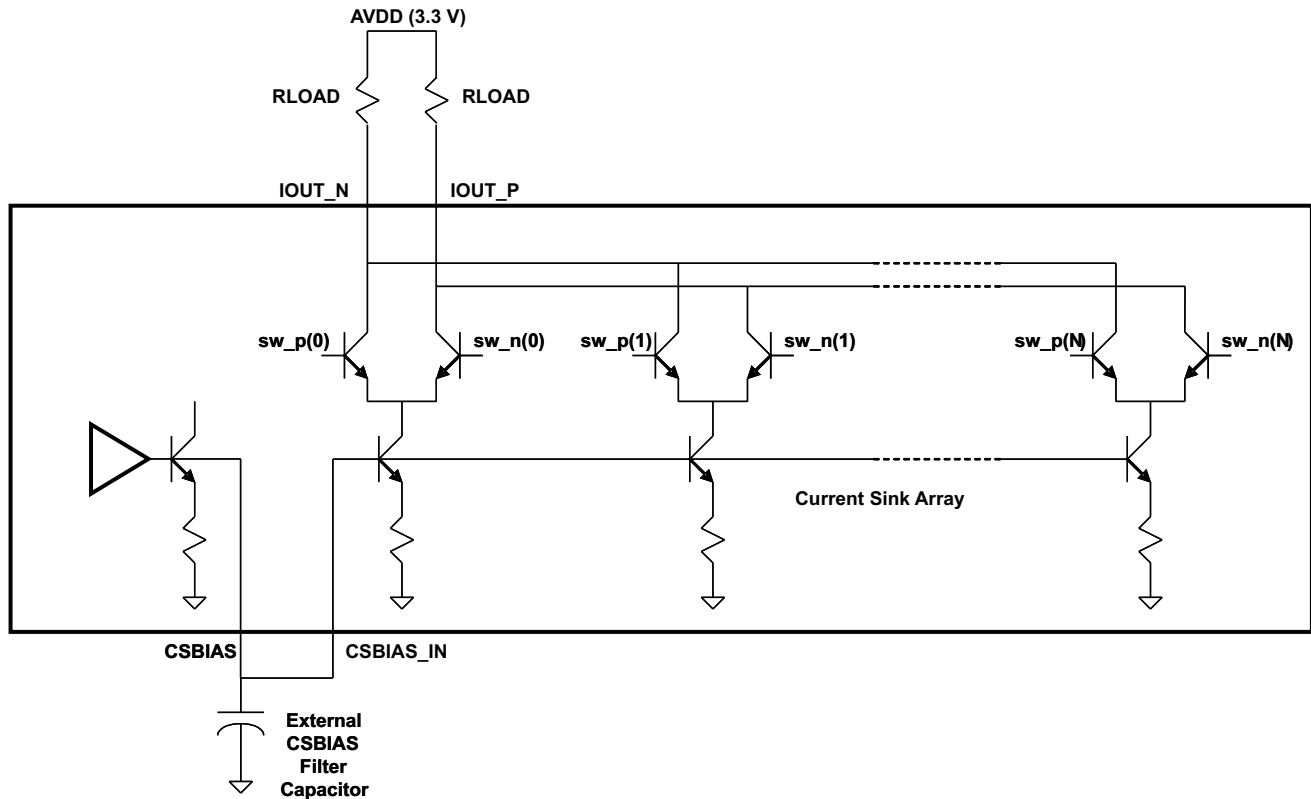

Figure 23. Current Sink Array
Figure 23 is a simplified schematic of the current sink array output with corresponding switches. Differential NPN switches direct the current of each individual NPN current sink to either the positive output node IOOUT_P or its complementary negative output node IOOUT_N. The input data presented at the DA_P[13:0], DA_N[13:0], DB_P[13:0] and DB_N[13:0] is decoded to control the sw_p(N) and sw_n(N) current switches.